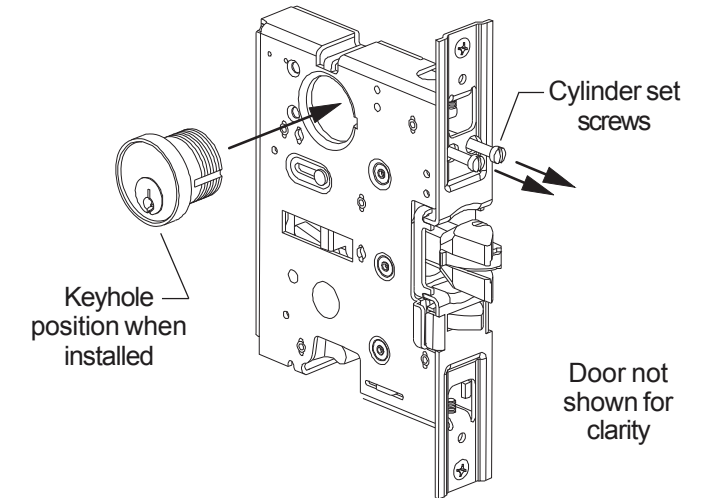

Figure 3
6. If using outside cylinder (Figure 3):